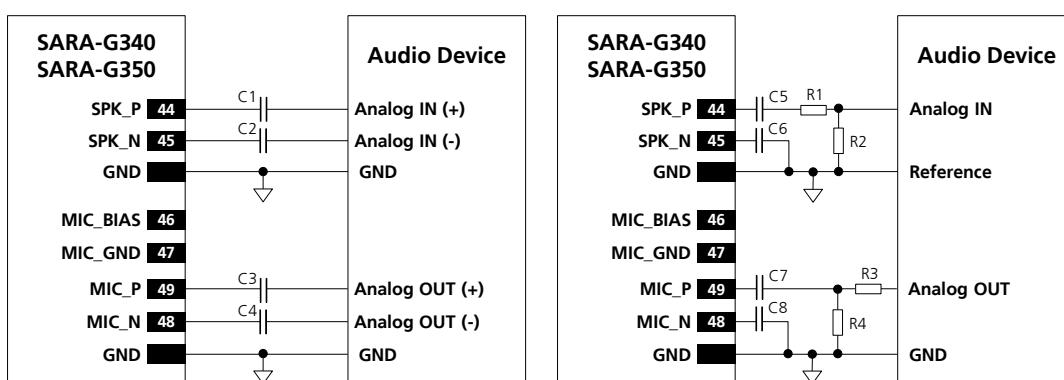

Figure 78: Application circuits to connect the module to audio devices with proper differential or single-ended input/output
Figure 78 and Table 52 describe the application circuits, following the suggested circuit design-in.
- The **SPK_P / SPK_N** balanced output of the module must be connected to the differential input of the external audio device by means of series capacitors for DC blocking (e.g. 10 μ F) to decouple the bias present at the module output, as described in the left side of Figure 78.
- A proper differential to single ended circuit must be inserted from the **SPK_P / SPK_N** balanced output of the module to the single ended input of the external audio device, as described in the Figure 78 right side: 10 μ F series capacitors are provided to decouple the bias present at the module output, and a voltage divider is provided to properly adapt the signal level from module output to external audio device input.
- The **MIC_P / MIC_N** balanced input of the module must be connected to the differential output of the external audio device by means of series capacitors for DC blocking (e.g. 10 μ F) to decouple the bias present at the module input, as described in the Figure 78 left side.
- A proper single ended to differential circuit has to be inserted from the single ended output of the external audio device to the **MIC_P / MIC_N** balanced input of the module, as described in the Figure 78 right side: 10 μ F series capacitors are provided to decouple the bias present at the module input, and a voltage divider is provided to properly adapt the signal level from the external device output to the module input.
- The signal levels can be adapted by setting gain using AT commands (see u-blox AT Commands Manual [3], +USGC, +UMGC), but additional circuitry must be inserted if **SPK_P / SPK_N** output level of the module is too high for the audio device input or if the audio device output level is too high for **MIC_P / MIC_N**, as the voltage dividers present in the circuits described in Figure 78 right side to properly adapt the signal level.